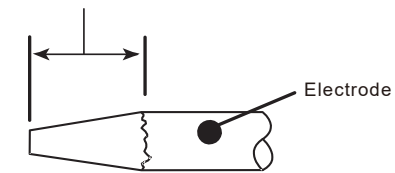

Figure:5-01
6. The tungsten must be ground to a blunt point (similar to a pencil) in order to achieve optimum welding results. (Refer to Figure: 5-01). It is critical to grind the tungsten electrode in the direction the grinding wheel is turning. Grind at a 30 degree angle and never to a sharp point.